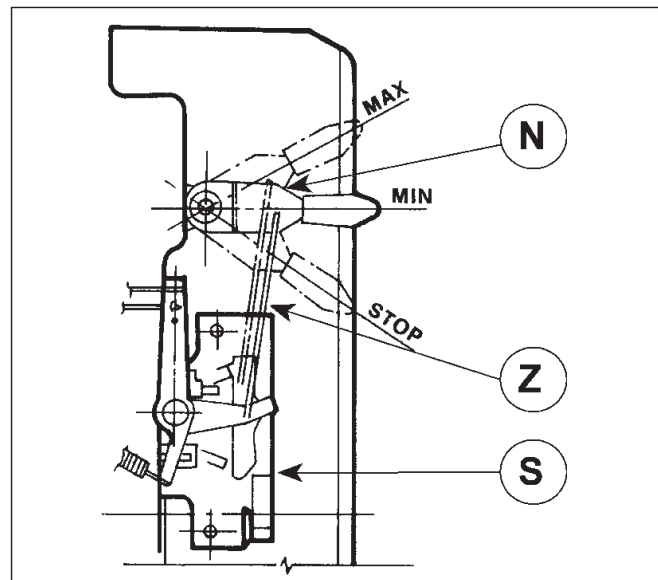

Fig. 11-1
For Manual control there is additional lever (N) and link (Z) which are mounted on governor plate (S). (Fig 11-1)